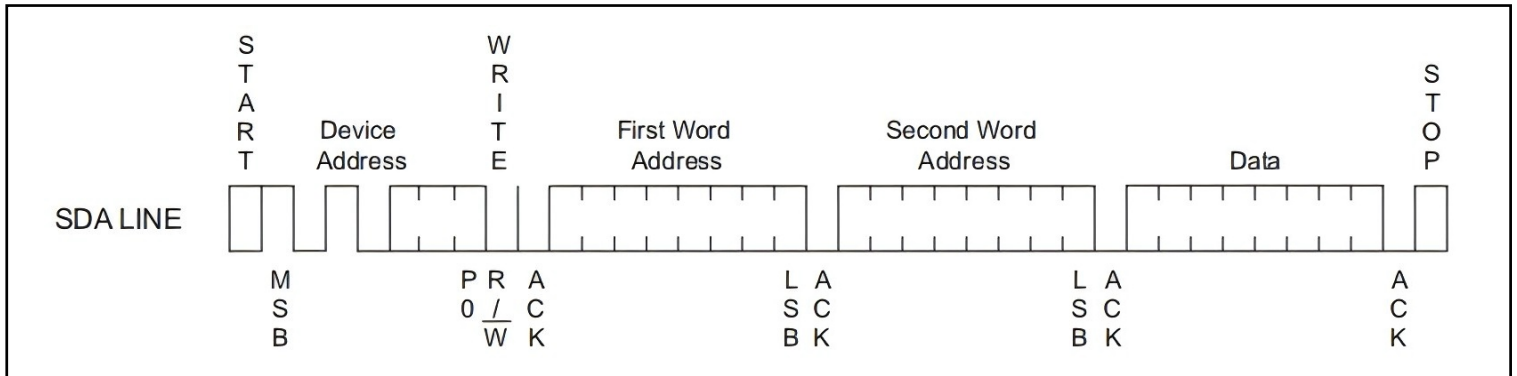

Figure 8. Byte Write
**Byte Write:** To select a data word in the 1-Mbit memory requires a 17-bit word address. The word address field consists of the P0 bit in the device address byte, then the most significant word address followed by the least significant word address (Figure 8).
A write operation requires the P0 bit and two 8-bit data word addresses following the device address word and acknowledgment. Upon receipt of this address, the EEPROM will again respond with a zero and then the part is to receive the first 8-bit data word. Following receipt of the 8-bit data word, the EEPROM will output a zero. The addressing device, such as a microcontroller, then must terminate the write sequence with a Stop condition. At this time the EEPROM enters an internally timed write cycle,  $t_{WR}$ , to the nonvolatile memory. All inputs are disabled during this write cycle and the EEPROM will not respond until the write is complete (Figure 8).